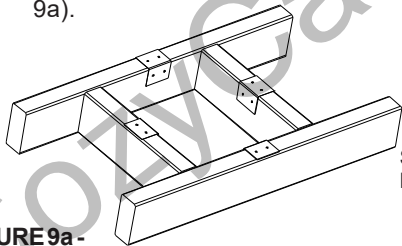

FIGURE 9a - Bracket Locations & Orientation - Centerpoint of Framed Opening
- a. Temporarily set one of the L-brackets at the midpoint location on the top of each side of the framed opening. The bracket should set on the top and extend down the front side of the framing members (see Figure 9a).